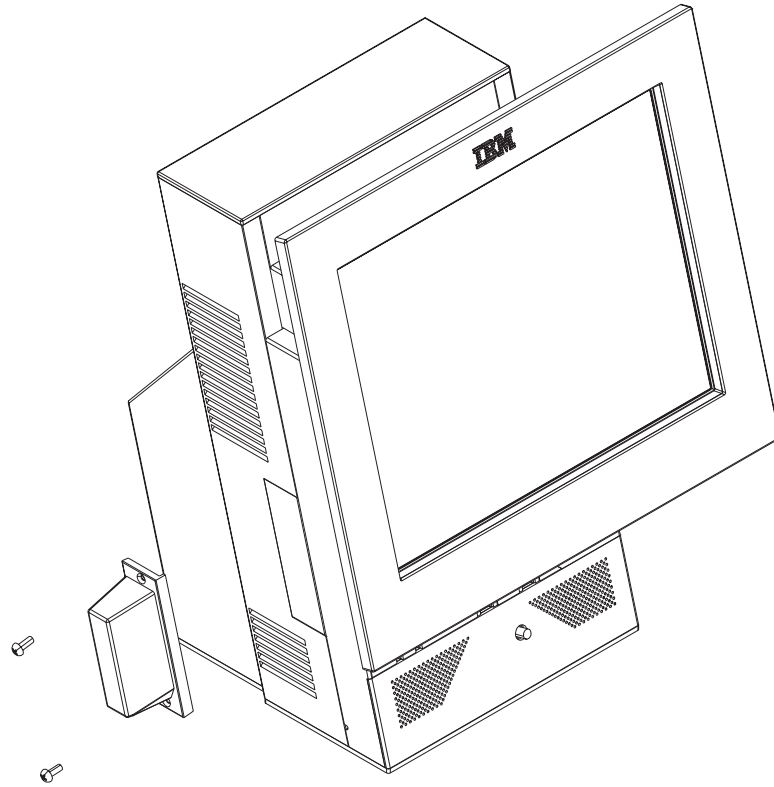

Figure 52. Removing a PC card adapter
2. Remove the door in the direction shown in Figure 52 on page 75.
4. If a wireless LAN antennae cover is present, remove the two screws, as shown in Figure 52 on page 75.